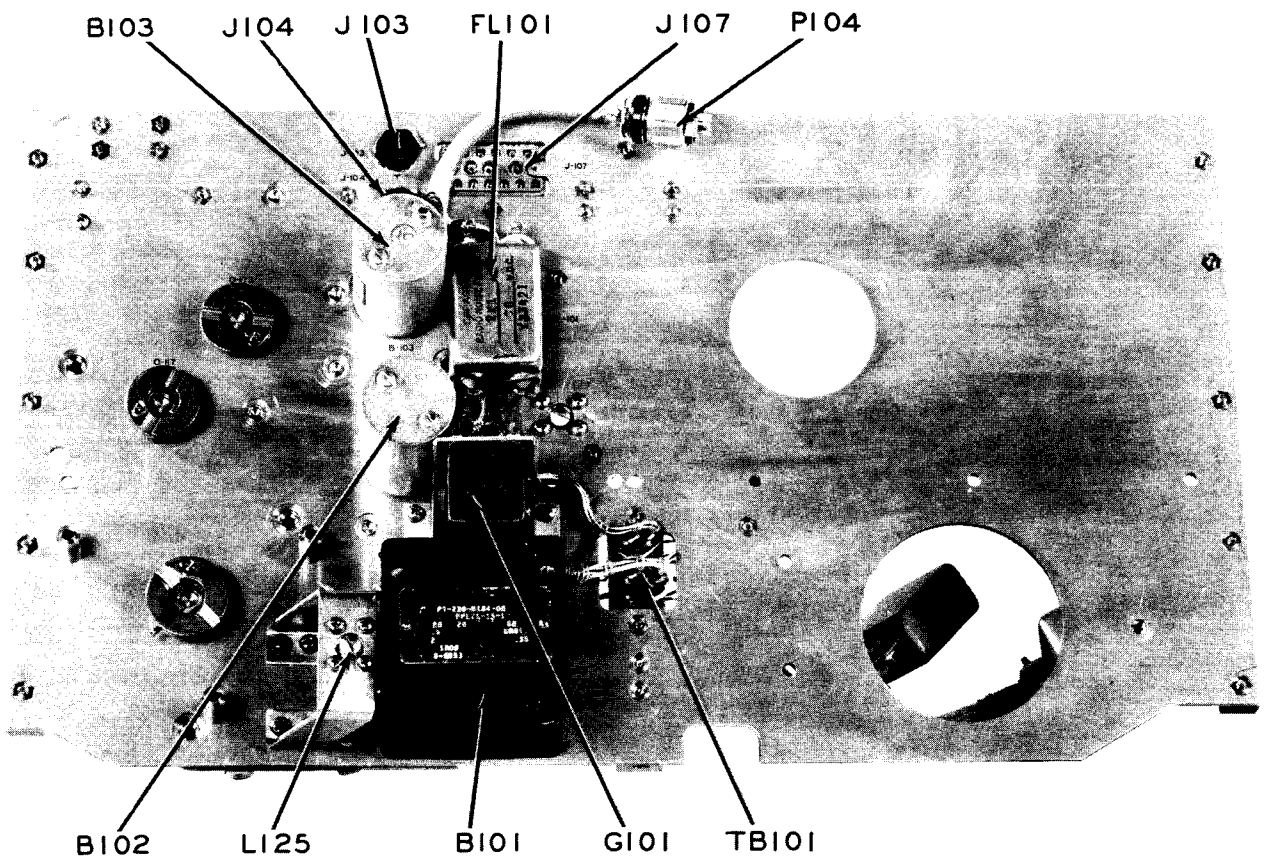

Figure 88. Gear plate, rear.
a. Replacement of Brushes on Band Switch Motor B103 and Coarse Positioning Motor B102. To replace brushes on the band switch motor B103 and the coarse positioning motor B102 (fig. 88), it is first necessary to remove the relay subchassis (par. 132 (c)). Then remove the two screws on the rear of the motor and remove the case from the motor. To remove the brushes from their holders, relieve the brush spring tension and lift the brush out using the brush lead. Unsolder the brush lead from the lug using a pencil-type solder iron and solder the new brush in its place. Replace the new brush in the brush holder and replace the brush spring. Then replace the motor cover and the relay subchassis.
b. Replacement of Rate Generator G101 Brushes. To replace brushes on the rate generator G101 (fig. 88), it is first necessary to remove the servo amplifier subchassis (par. 132 (g)). Then remove the rate generator bracket from the gear plate by removing the two screws on each side of the rate generator. Disengage the rate generator drive wheel from the gear train and remove the rate generator and bracket. The brushes are accessible after the rate generator is removed from the bracket. To remove the brushes from their holders, relieve the brush spring tension and lift the brush out using the brush lead. Unsolder the brush lead from the lug using a pencil-type solder iron and solder the new brush lead in its place. Replace the new brush in the brush holder and replace the brush spring. Then replace the rate generator in its bracket, screw the bracket onto the gear plate and replace the servo amplifier subchassis.